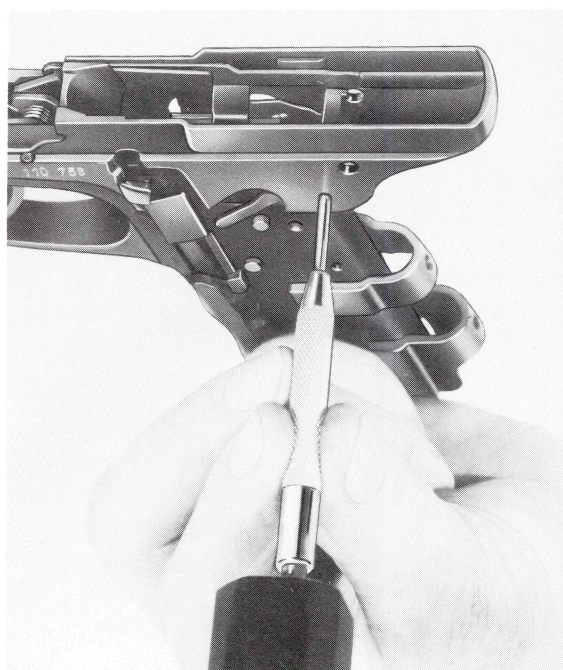

Fig. 22
- Drive out cylindrical pin (6) (Fig. 22), remove the safety latch (16) and the catch lever (17).